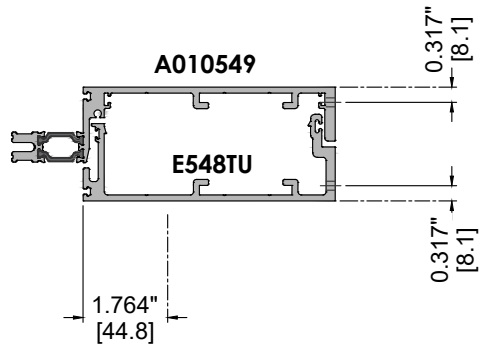

FIG. 1
- b. Drill (8x) Ø0.173" [4.3] (#17 drill bit) clearance holes for 1/4 " fastener per approved shop drawings. See **FIG. 1 & FIG 2**